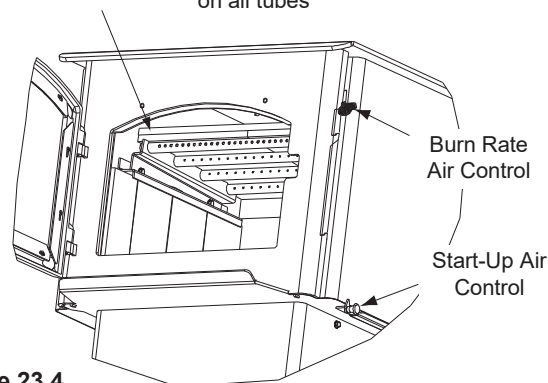

Figure 23.4
5. To re-install the ceramic blanket, it is easier to fold it in half first. Place on top of baffle board, open up and flatten and smooth out the blanket. Re-check the baffle board for correct positioning (**Figure 23.4**).